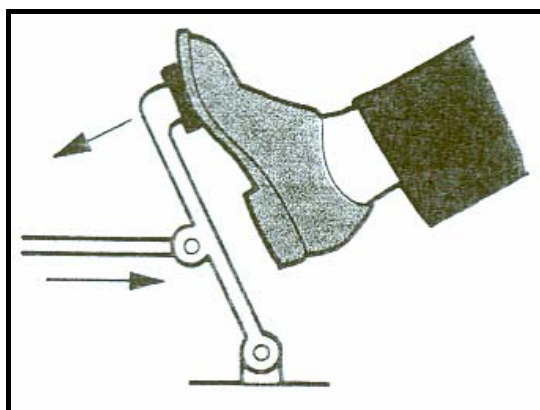

FIGURE 1.8
1.17 What class of lever does FIGURE 1.8 illustrate?